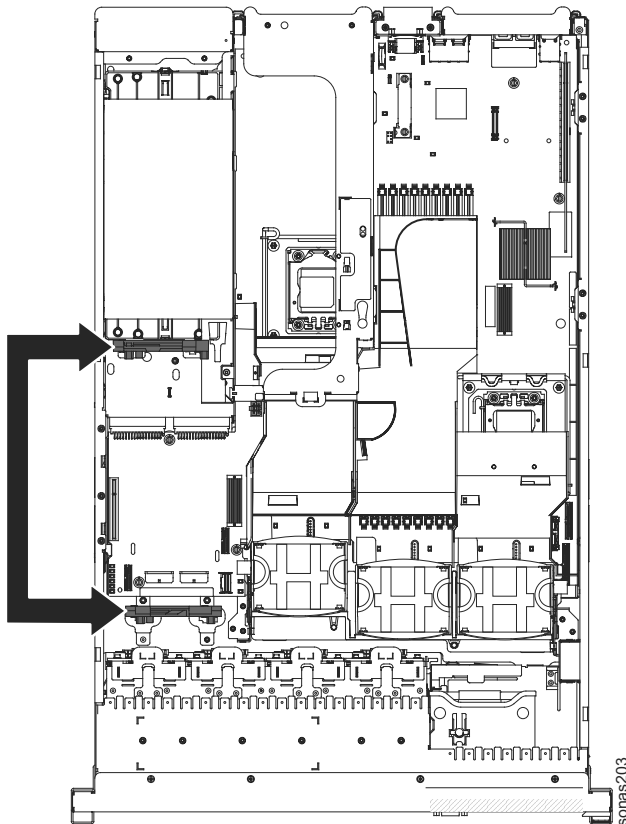

Figure 22. Controller retention brackets on 16-drive-capable server model
- a. If you are replacing a ServeRAID-BR10il v2 SAS/SATA controller with a ServeRAID-M5015/M5014 SAS/SATA controller, you must swap the controller retention brackets to fit the new SAS controller. See Figure 22.